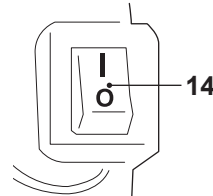

Fig. 8
- > Set the ignition switch (14) to its on position "I" (Fig. 8).